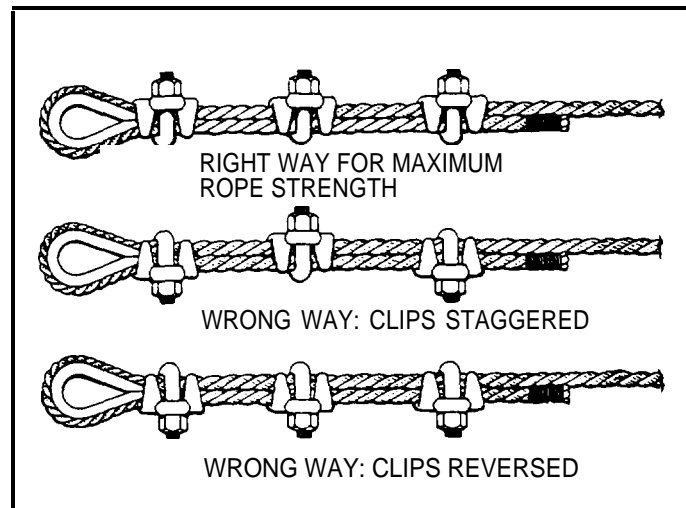

Figure 4-36. *U-bolt Clip Dimensions*
1. Turn back the specified amount of rope from the thimble. Apply the first clip one base width from the dead end of the wire rope (U-bolt over dead end; live end rests in clip saddle). The U-bolt must be applied so that the “U” section is in contact with the dead end of the rope (Figure 4-36). Tighten nuts evenly to recommended torque.